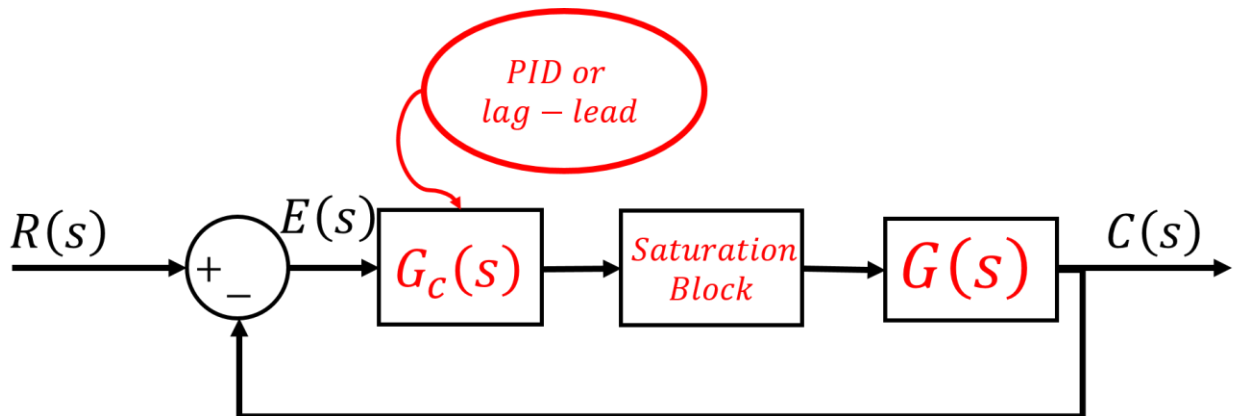

Figure 4: Control system setup with saturation block at compensator output
- Add a saturation block at the compensators' output to limit the control command u between $0 \leq u(t) \leq 2 \times 10^{-5}$ for all time $t \geq 0$. What is the effect of adding this saturation block on the closed-loop system performance? (see Figure 4 below for setup visualization)